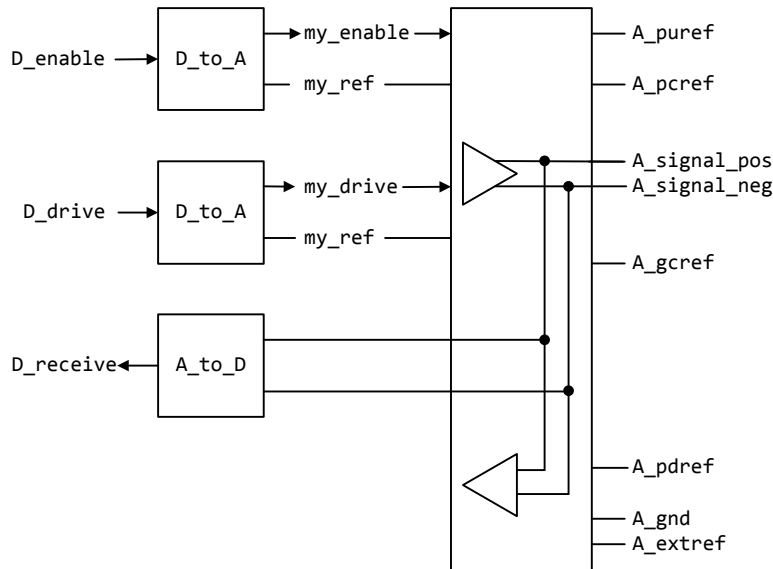

Figure 29 - Example SPICE, Verilog-A(MS) or VHDL-A(MS) Implementation of a True Differential Buffer
The D_to_A or A_to_D adapters used for SPICE, Verilog-A(MS) or VHDL-A(MS) files may be set up to control or respond to true differential ports. An example is shown in Figure 29.